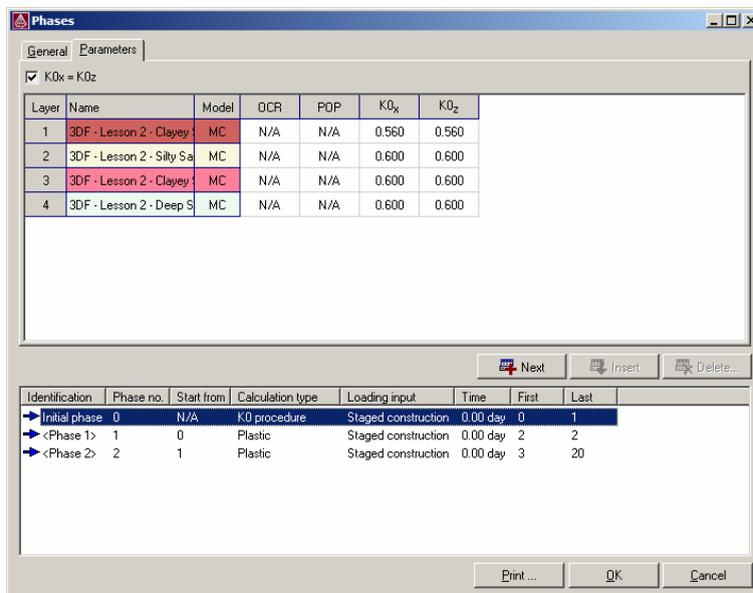

Figure 4.5 The *Phases* window with the *Parameters* tab sheet for the  $K_0$  procedure
- Open the *Phases* window and change the calculation type for the initial phase to *K0 procedure* (see Figure 4.5).